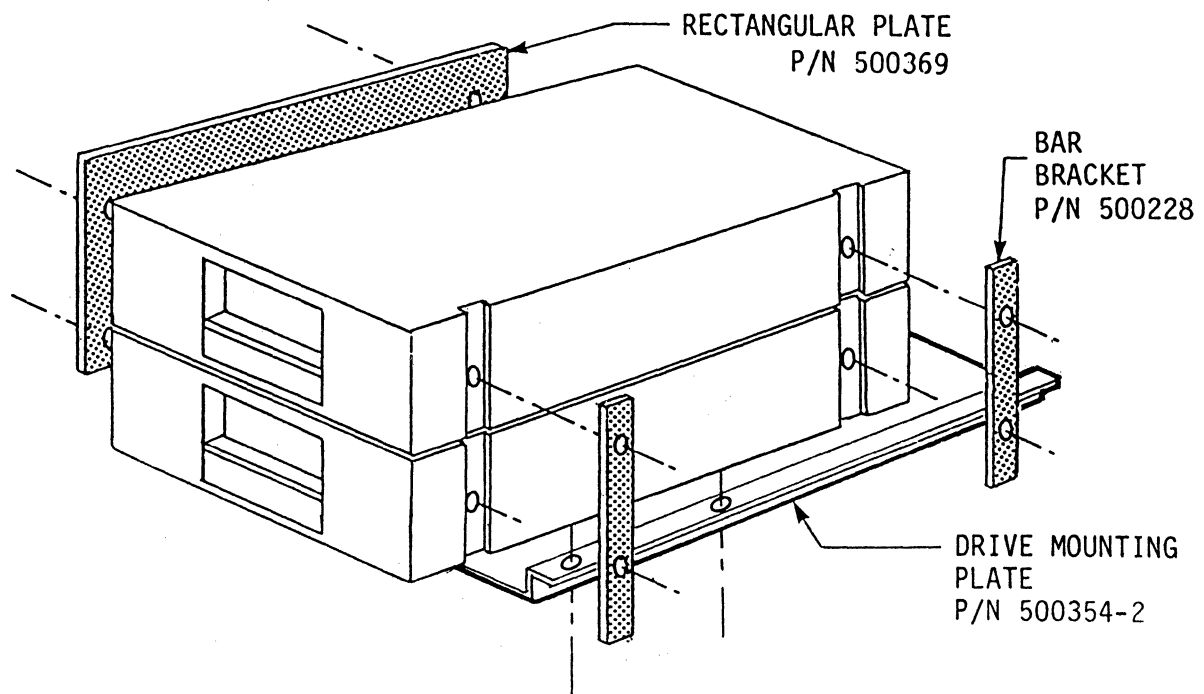

FIGURE 2-2: SLIMLINE FLOPPY DRIVES BRACKETS
1. If dual slimline floppy drives are used, secure them together with the supplied mounting brackets using eight (four on each side) 8-32 x 3/8 panhead phillips screws with associated lock and flat washers as shown in Figure 2-2. Two bar brackets are installed on the right side (as viewed from the front of the drive), and a rectangular bracket is installed on the left side of the drive.
4. Place the tape transport assembly over the mounting plate shown in Figure 2-2 and secure from the bottom using 8-32 x 3/8 hardware.